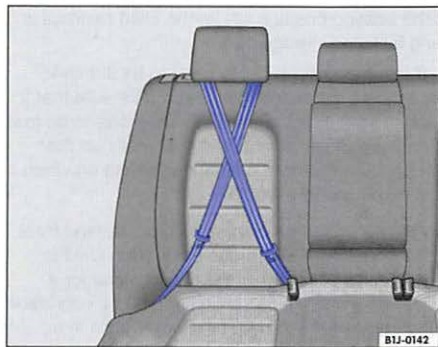

Fig. 64 Keep unused safety belts away from children in child safety seats.
You must take special precautions when installing a child restraint with the vehicle safety belt or with LATCH/UCRA lower universal anchorages behind the front passenger seat or behind the driver seat. Always route the unused center seat safety belt and the unused safety belt for the seating position where the LATCH/UCRA child restraint is being installed around the rear head restraint behind the child restraint to help prevent a child from playing with the unused belt and becoming entangled in it ⇒ **fig. 64**.
- Guide the safety belt webbing behind the head restraint of the adjacent seat ⇒ **fig. 64**. When doing so, do not engage the safety belt lock! You should not hear a "clicking" sound when winding up the safety belt.